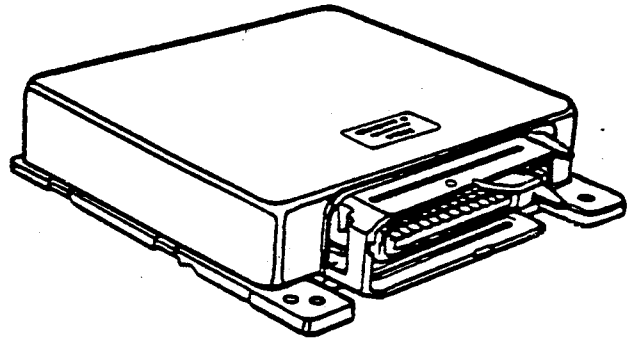

Figure 4. LH ECM
4. Fit a new LH ECM, P/N 02 42 172 (see figure 4).